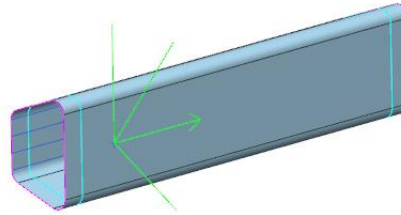

Figure 3–69
5. **ROS001** displays in model as shown in Figure 3–69.